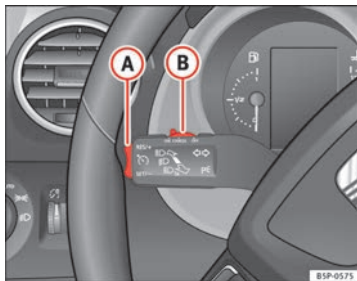

Fig. 151 Turn signal and main beam headlight lever: switch and rocker switch for the cruise control
- Press the lower part **SET/-** of the rocker switch ⇒ fig. 151 **A** once briefly when you have reached the speed you wish to set.